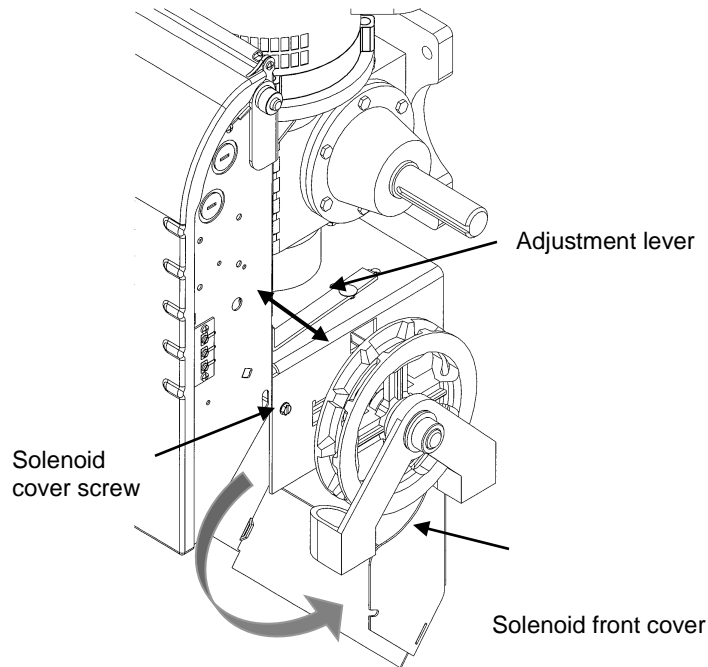

Figure 14 Brake system (right hand side view)
1. Remove the solenoid front cover by slightly unscrewing screws on each side of the frame. (Figure 14)
3. Press the brake lever towards the solenoid (Figure 14) to adjust the gap between the plunger and the solenoid body, meanwhile pull the brake adjustment lever away from the motor to put tension on the band (Figure 14).